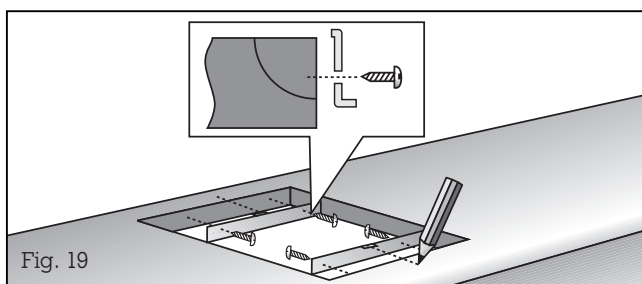

Fig. 19
- **Mark the centre of the recess exactly.** Secure the securing rails on the front and rear edges of the recess. Make sure that the lugs of the securing rails lie on the worktop and that the centre marking of the securing rails is precisely flush with the centre marking on the worktop (Fig. 19).